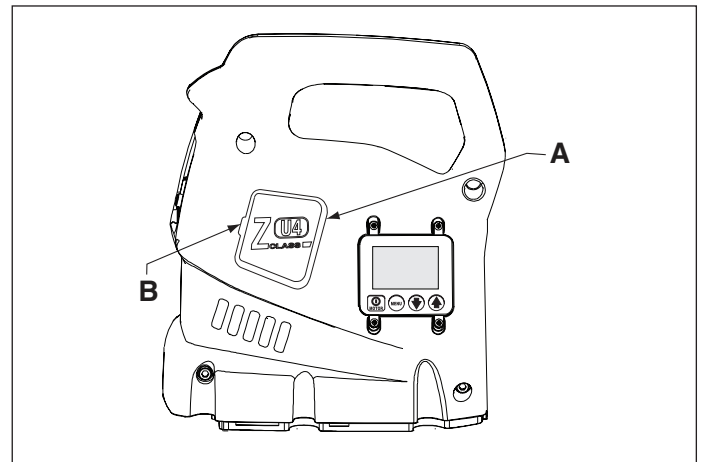

Figure 8, Brush Cap Removal
2. Remove both brush caps (A) by deflecting the brush cap latch (B) and gently prying outward. See Figure 8.